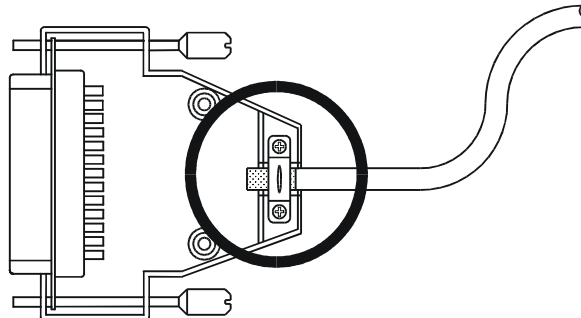

Fig. 2: Shielding of SUB-D connectors in conformity with the EMC standards.
- Only use metallized connectors, e.g. SUB-D with metallized housing. Please take care of direct connection of the strain relief with the housing here as well (refer to Fig. 2).